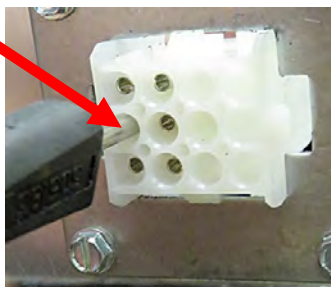

Figure 4
6. Using a pin pusher remove the green ground wire from pin 2 (see Figure 4) of the connector on the bottom of the basket lift.